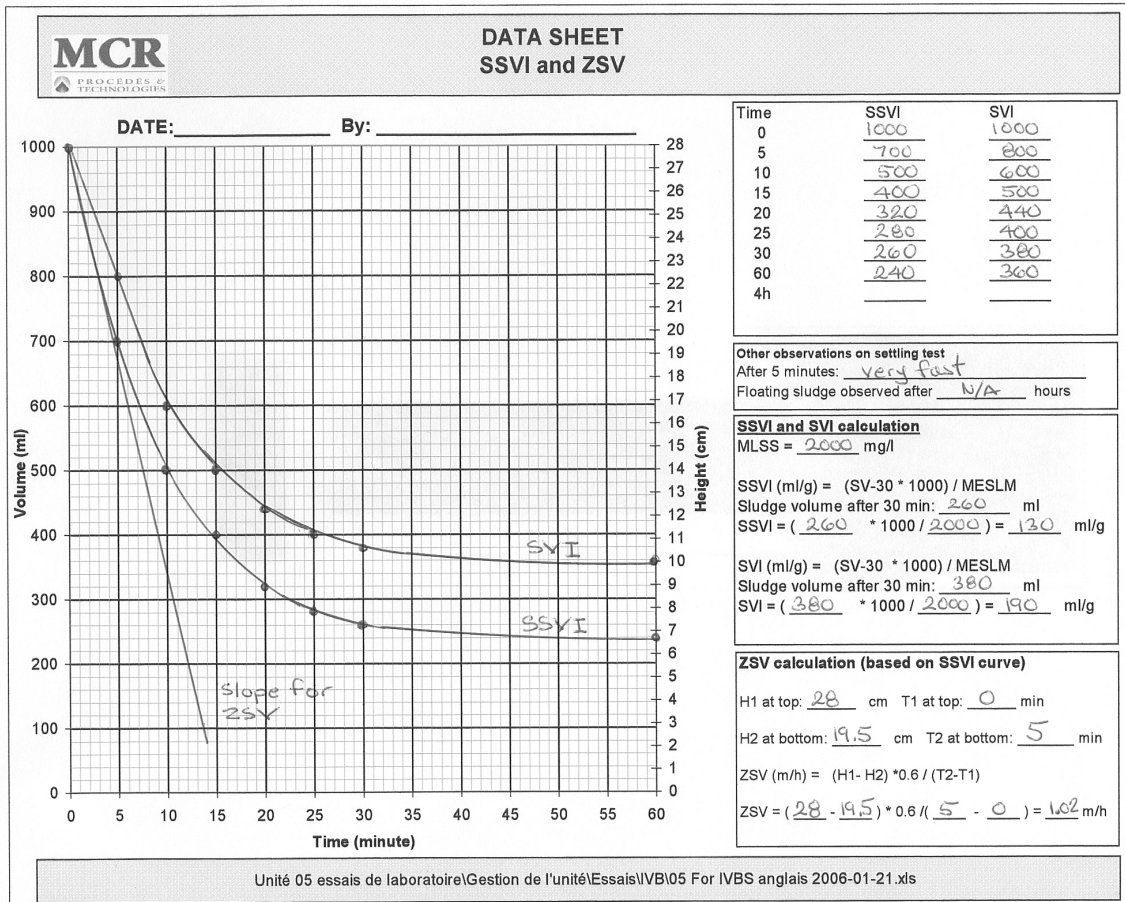

Figure 6.1 : Example of sludge settling very fast
Figures 6.1 and 6.2 will be used as examples to show the calculations.
- From figure 6.1, for the SSVI we have after 30 minutes a sludge volume in the cylinder of 260 ml and a MLSS concentration of 2000 mg/l:
- From figure 6.1, for the SVI we have after 30 minutes a sludge volume in the cylinder of 380 ml and a MLSS concentration of 2000 mg/l:
- From the SSVI curve on figure 6.1, the first continuous slope ended at 5 minutes with a corresponding height in the cylinder of 19,5 cm.